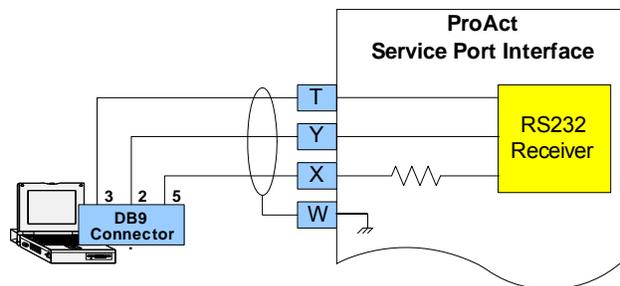

Figure 4-3. Typical Programming Datalink Harness Wiring
The Service Tool software resides on a PC (personal computer) and communicates to the ProAct through connector pins T, Y, X and W (see Figure 4-3 and the wiring instructions in Chapter 3). An RS-232 breakout cable is available for purchase from Woodward, part number 1249-1147.
- Programming/datalink harness as shown in Figure 4-3.